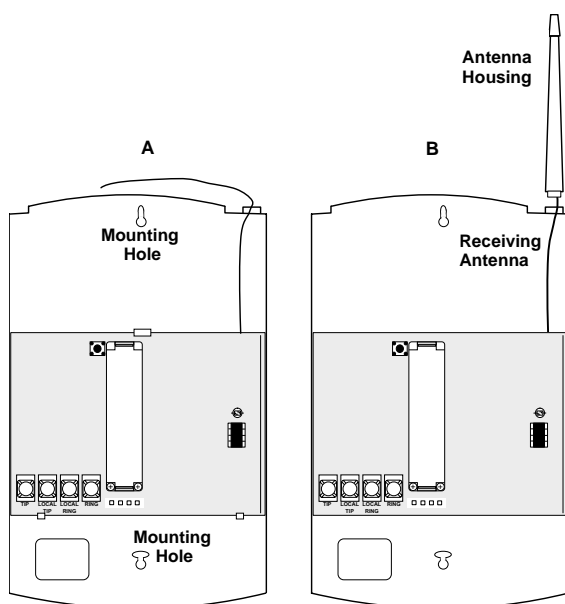

Figure 4. Mounting Hole Locations and Antenna Housing Installation
1. Hold the DTIM against the wall and mark the mounting holes (see A in Figure 4). Be sure to leave at least 4 inches above the DTIM for the antenna housing.
2. Slide the antenna housing over the antenna and snap the housing into the upper-right hole (see B in Figure 4).